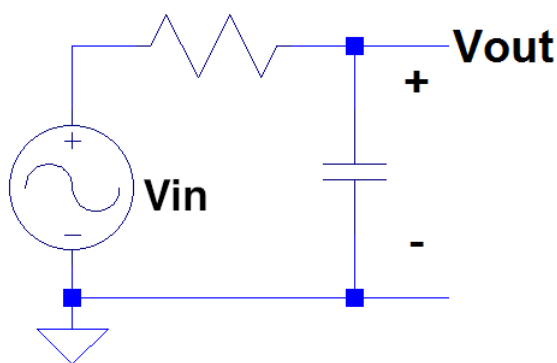

Figure 2.1: Pre-lab Circuit A
2. Explain and fill in the table below with how V_{OUT} differs between the two circuits in figures 2.1 and 2.2 as frequency approaches DC and ∞ .